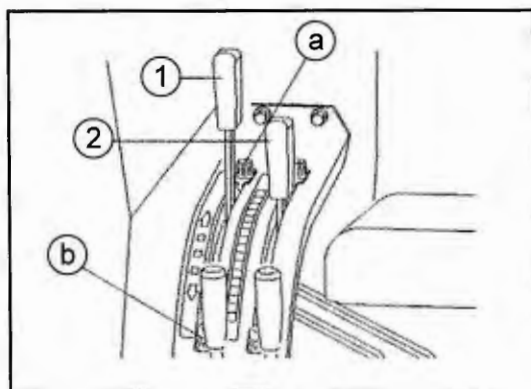

Fig. 21-1 - Hydraulic Lift Controls
The position control lever (1) and the draft control lever (2) are used to select and operate the most suitable mode for the implement and the conditions. (See Fig. 21-1).
Move the position lever (1) completely forward to make the position control non-operative. (See Fig. 21-1).
The desired implement depth can be set in the ground by gradually shifting the draft control lever (2). (See Fig. 21-1). The depth which is reached by the implement is proportionate to the traction power which will be determined by soil consistency. When set in draft control position, the lift will automatically maintain the proper traction power required from the tractor at constant level.